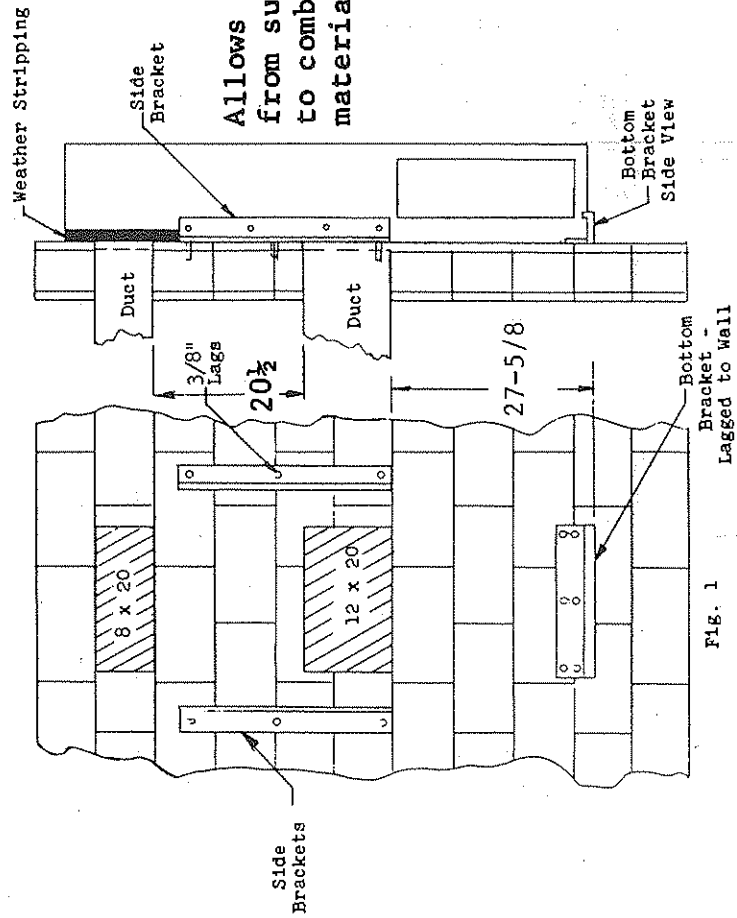

Fig. 1
1. Two holes, the size of the supply and return air openings must be cut through the wall as shown in Fig. 1 and 2 on page 5.
These units are secured by wall mounting brackets which secure the unit to the outside wall surface at both sides and at the bottom. (Fig. 1).